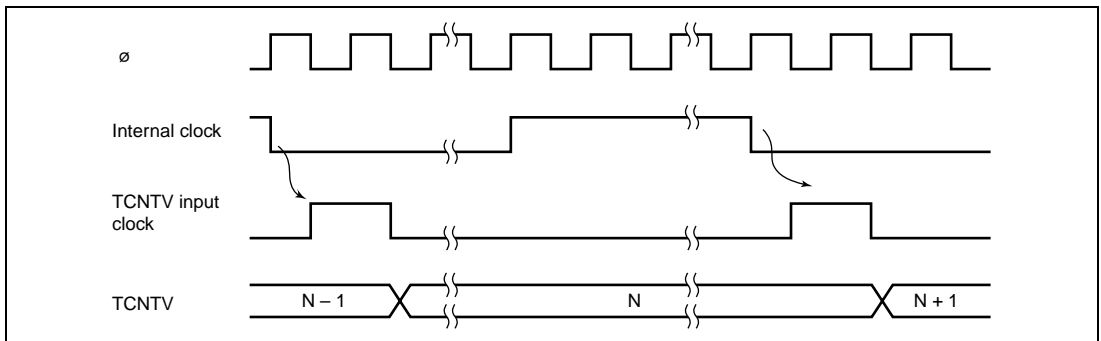
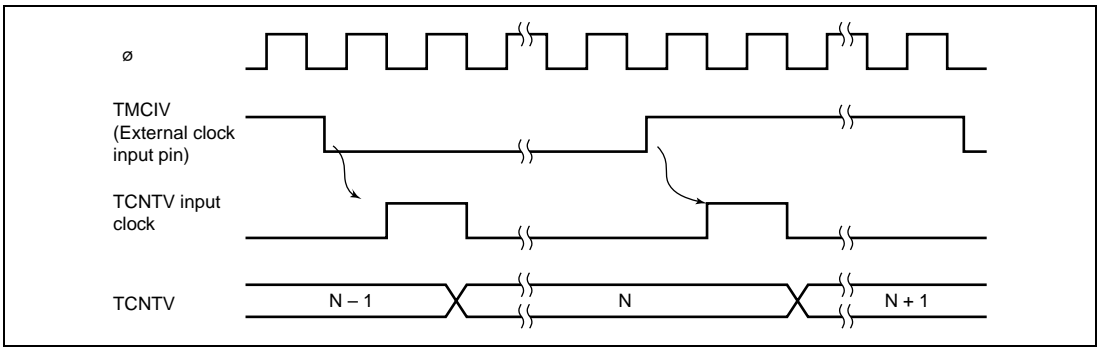

Figure 11.2 Increment Timing with Internal Clock
Figure 11.3 Increment Timing with External Clock
1. According to table 11.2, six internal/external clock signals output by prescaler S can be selected as the timer V operating clock signals. When the operating clock signal is selected, TCNTV starts counting-up. Figure 11.2 shows the count timing with an internal clock signal selected, and figure 11.3 shows the count timing with both edges of an external clock signal selected.
4. Depending on the timing, TCNTV may be incremented by a switch between different internal clock sources. When TCNTV is internally clocked, an increment pulse is generated from the falling edge of an internal clock signal, that is divided system clock (ϕ). Therefore, as shown in figure 11.3 the switch is from a high clock signal to a low clock signal, the switchover is seen as a falling edge, causing TCNTV to increment. TCNTV can also be incremented by a switch between internal and external clocks.